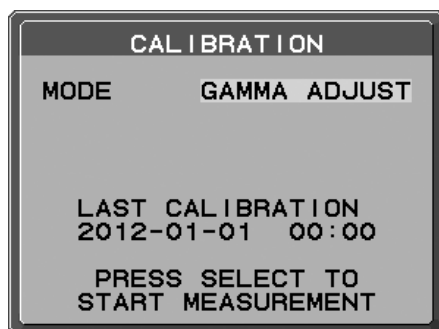

Figure 1
2. Select GAMMA ADJUST in the MODE selection (**Figure 1**).